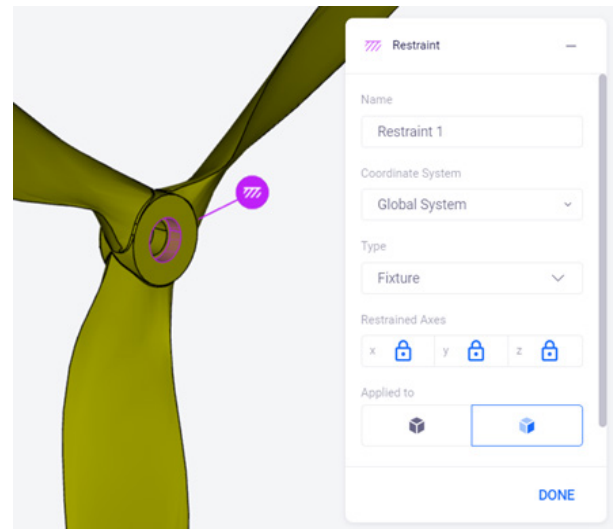

Figure 4: Using restraint tool at the inner hub
Step 1: Select the restraint tool and apply a fixture type of restraint at the inner hub as shown in Figure 4.